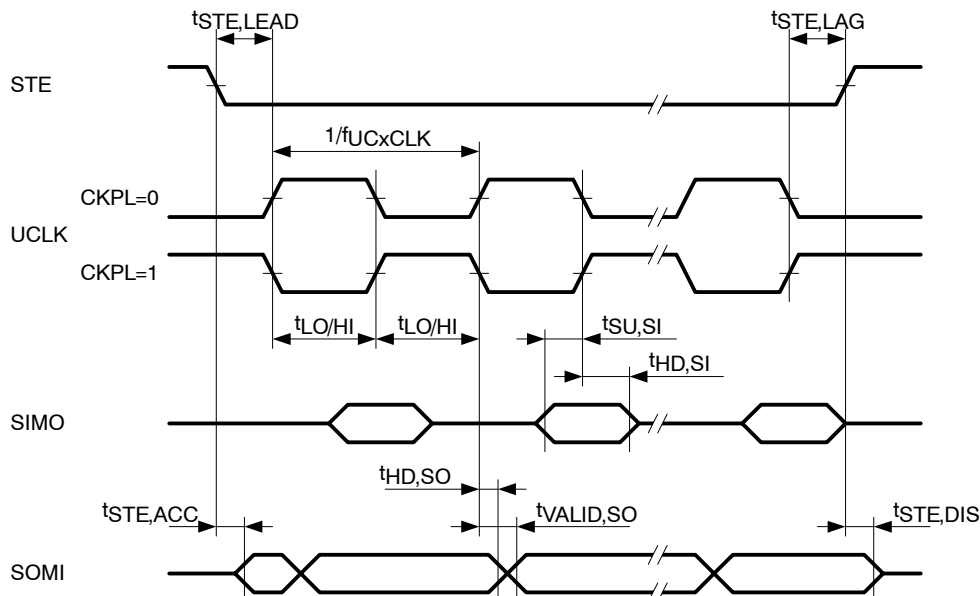
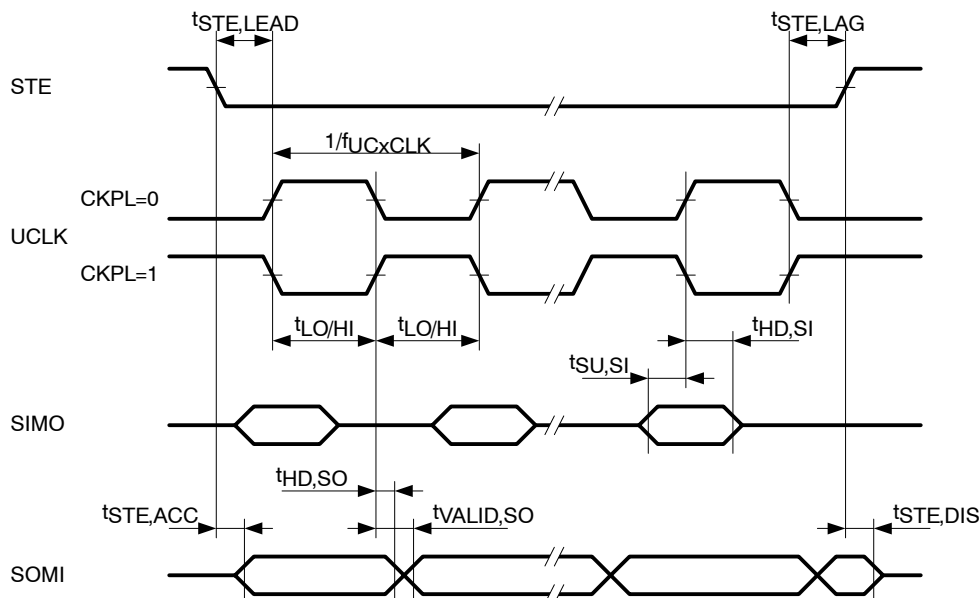

Figure 23. SPI Slave Mode, CKPH = 0
Figure 24. SPI Slave Mode, CKPH = 1
**electrical characteristics over recommended ranges of supply voltage and operating free-air temperature (unless otherwise noted) (continued)****USCI (SPI slave mode) (see Note 1, Figure 23, and Figure 24)**
- Specifies the time to drive the next valid data to the SOMI output after the output changing UCLK clock edge. Refer to the timing diagrams in Figure 23 and Figure 24.
- Specifies how long data on the SOMI output is valid after the output changing UCLK clock edge. Negative values indicate that the data on the SOMI output can become invalid before the output changing clock edge observed on UCLK. Refer to the timing diagrams in Figure 23 and Figure 24.